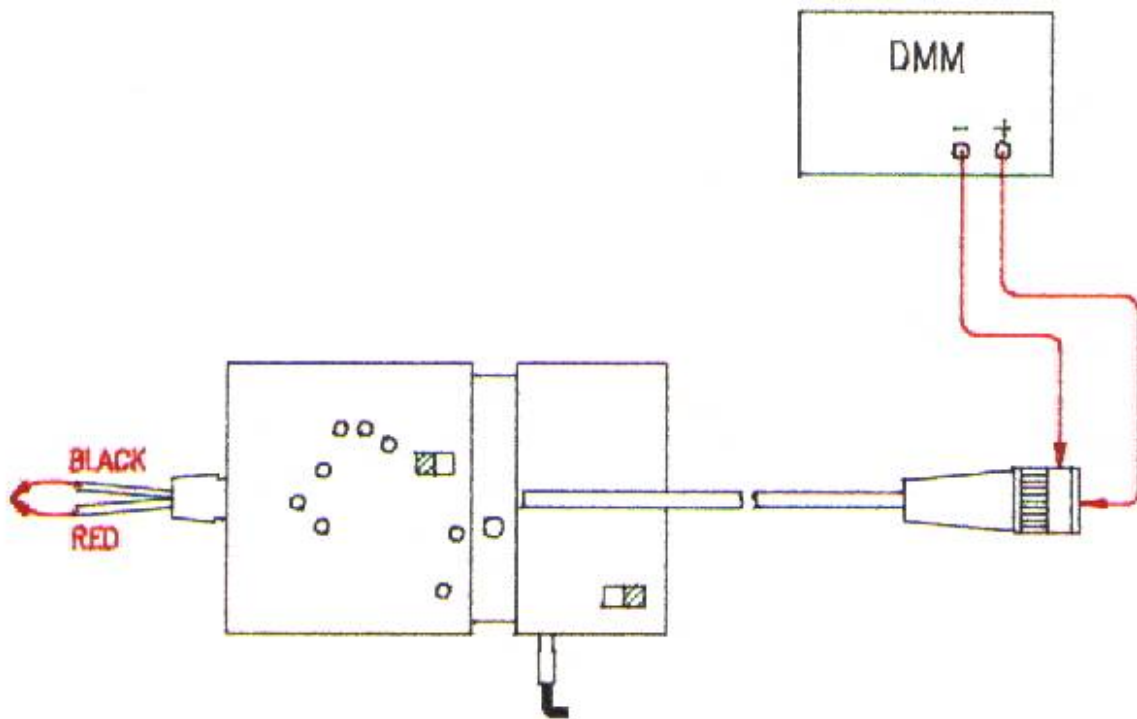

Fig. 8
- a. Referring to Fig. 8, connect both input lines together.